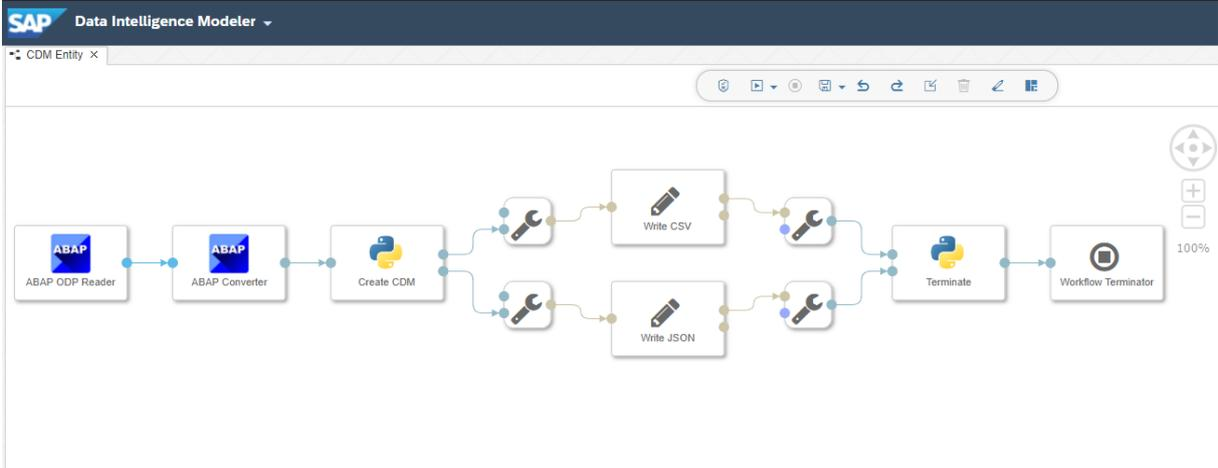

Figure 2.6: Workflow for creating a CDM entity in the Data Intelligence Modeler.
The workflow of generating CDM entities from ODP objects is realised with several different operators in the Data Intelligence Modeler. This workflow (or graph in SAP DI terminology) is shown in Figure 2.6. Here different operators are used to (1) read data from a parameterised ODP object (ABAP ODP Reader), (2) transform the data from type ABAP to string (ABAP converter), (3) Map the data into CDM format (Please get in touch with initions to learn further details about the Python script), (4) write the CDM data (Write CSV) and describing metadata (Write JSON) to the Azure Data Lake and (5) finally terminate the workflow. This workflow is executed in a parameterised fashion for each ODP object that is loaded into the CDM. In addition, the delta capabilities of the ODP extractors